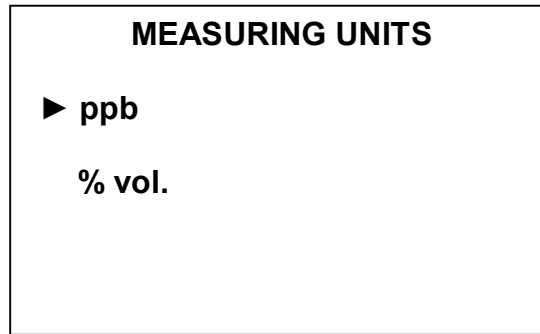

Fig. 2.16
- 2 Move the marker to **MANUAL** command and depress the key . The display shown in Fig. 2.16 shall come up.